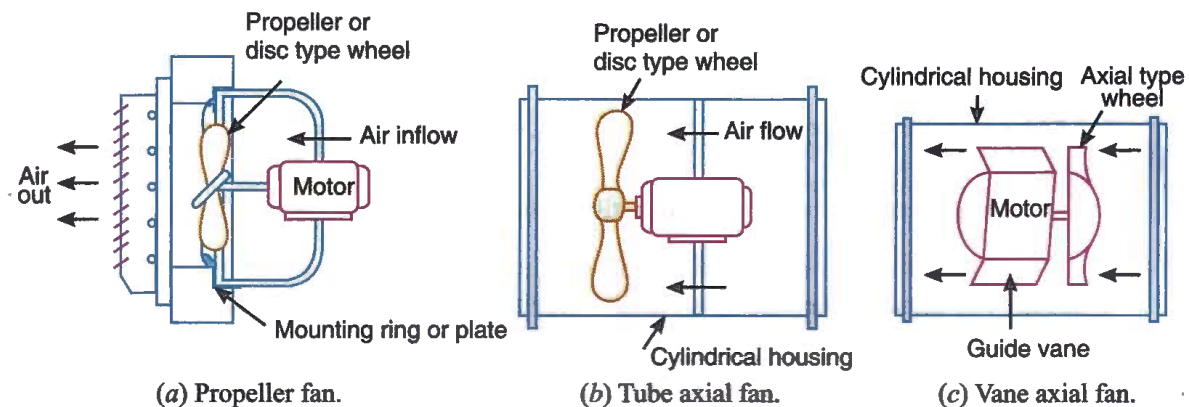

Fig. 21.3. Types of axial flow fans.
**1. Propeller fan.** A propeller type of axial flow fan consists of a propeller or disc type wheel which operates within a mounting ring as shown in Fig. 21.3 (a). The design of the ring surrounding the wheel is important because it prevents the air discharged from being drawn backward into the wheel around its periphery. The propeller fans are used only when the resistance to air movement is small. They are useful for the ventilation of attic spaces, lavatories and bathrooms, removal of cooking odours from kitchens and many other applications where little or no duct work is involved.
**2. Tube axial fan.** A tube axial fan, consists of a propeller wheel housed in a simple cylinder as shown in Fig. 21.3 (b). The wheel may be driven either from an electric motor within the cylinder directly connected to its shaft or may be driven through a belt arrangement from a motor mounted outside the housing. These fans are easily installed in round ducts. They are more efficient than propeller fans. The air discharge from tube axial fan follows a spiral path as it leaves the cylindrical housing.
**3. Vane axial fan.** A vane axial fan combines a tube axial fan wheel mounted in a cylinder with a set of air guide vanes, as shown in Fig. 21.3 (c). This fan eliminates spiral flow of the